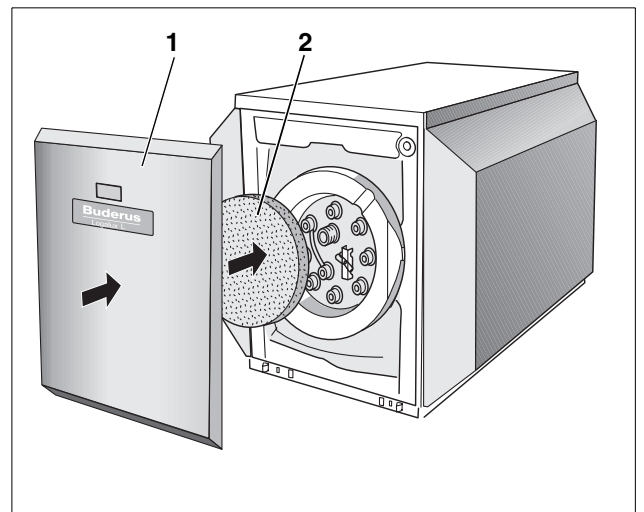

Fig. 20 Installing insulation and front cover
- Put back the insulation ring (Fig. 20, **Item. 2**).
- Put the front cover (Fig. 20, **Item. 1**) back and secure with 4 screws